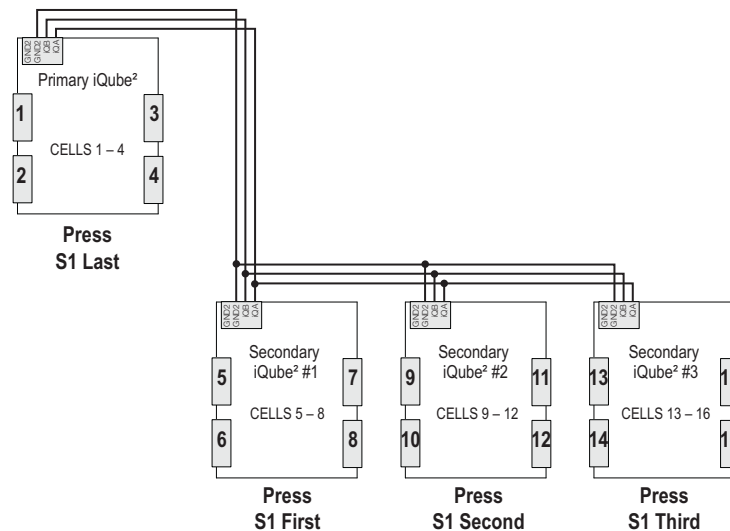

Figure 9. iQube2 Board and Load Cell Assignments
3. Refer to Figure 9 and press S1 (located on the CPU board - Figure 1 on page 1) to assign the load cells in the order that is shown. They must be assigned in that order.